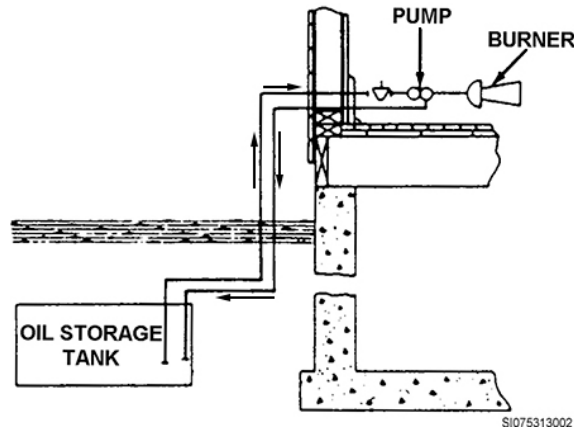

Figure 1-1. Two-pipe fuel oil systems. (Reprinted with permissions)
Use a two pipe system (fig. 1-1) when the oil storage tank is *below* the level of the burner. The burner is located above the tank. The pipe or line that delivers oil from the tank to the burner equipment is the suction line or feed line. The other line that returns extra oil to the tank is the return line. You should use a two-pipe system when the pump has a dual purpose: (1) to pull the oil from the storage tank and (2) to furnish the oil under pressure to the burner nozzle.